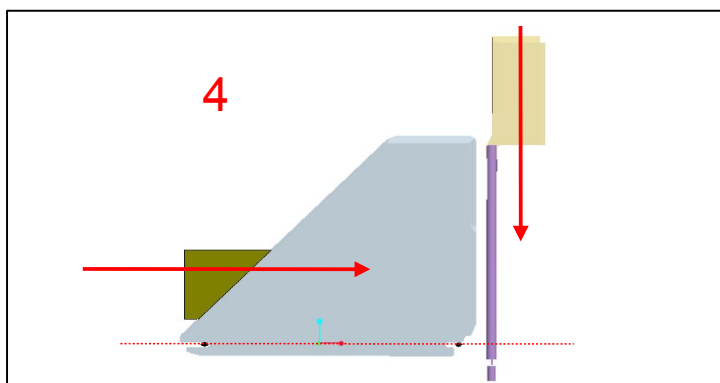

Fig.5 Assembly of aluminum fin and rudder
- Tap gently with a hammer to attach the back fin fork to the locking pin on the mast step (put Teflon or wood between the edge of the fin and the hammer, as shown in Figure 5).
- 5a. Tap gently with a hammer to fasten the rear interlocking fork of the fin to the locking pin on the mast step (always with Teflon or wood between the fin and hammer, as shown in Figure 5).
- 4b. Tap gently with a hammer to attach the rear fork of the fin to the locking pin on the mast step using Teflon or wood between the fin and hammer (see Figure 5 and read the recommendations listed at right).